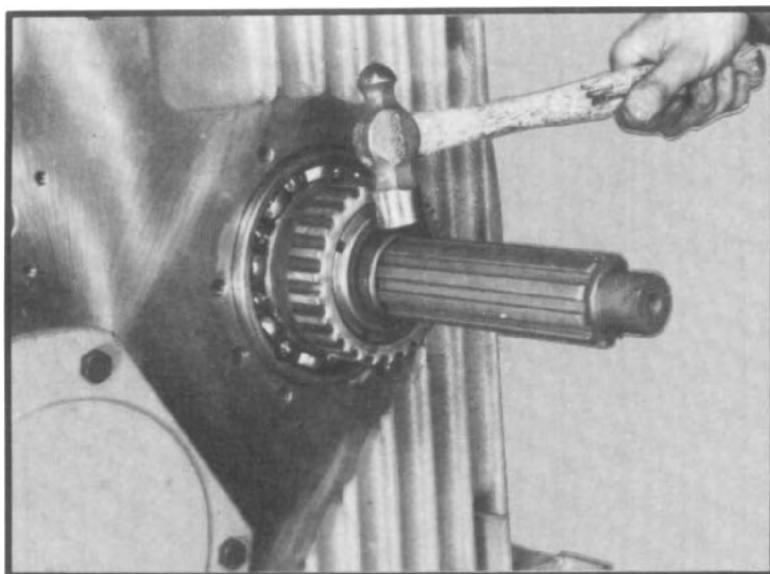

Fig. 125
- 2.16 Insert inner shaft through rear of lower shaft assembly and press retaining ring over the groove located on front of inner shaft. (See fig. 125.)